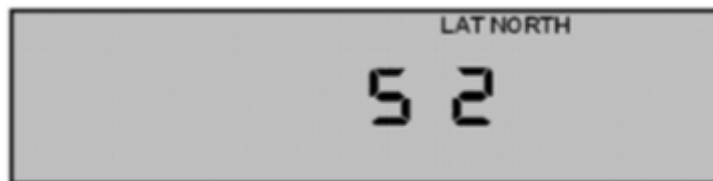

Figure 19
- 2.26 The next screen is the latitude which should be set at 52. (Figure 19)